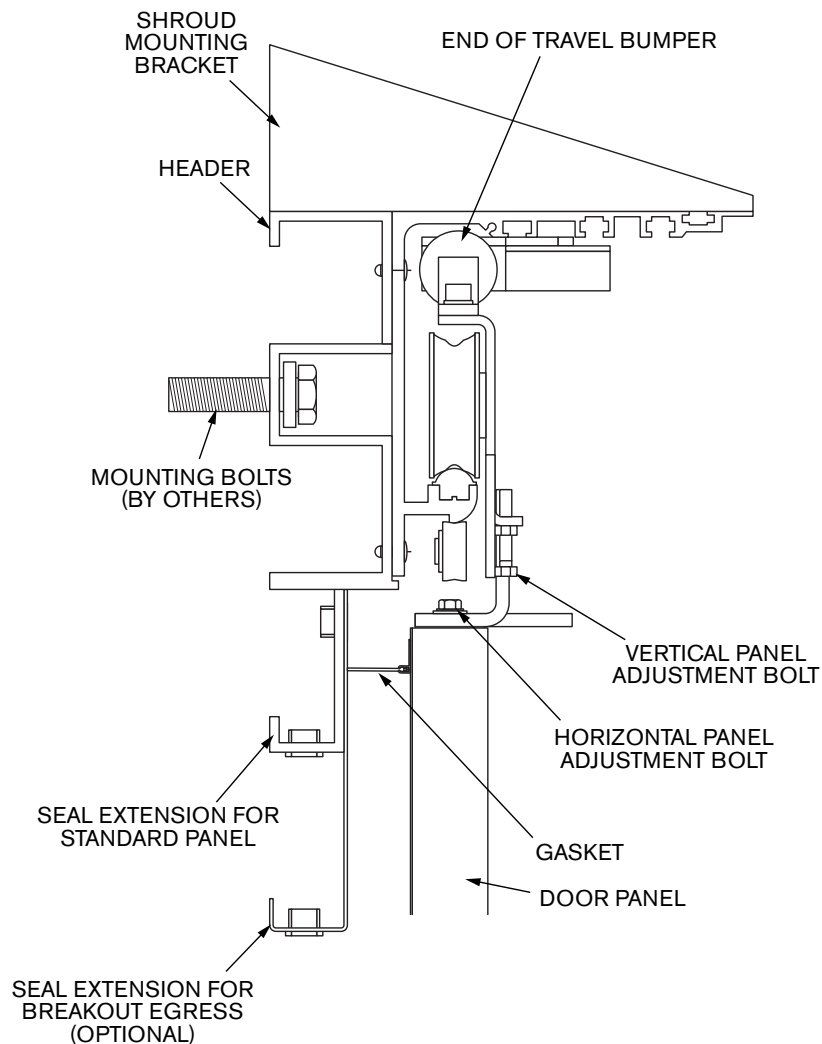

Figure 9: Attaching Panel to Header
5. Mount the header to the wall. Use the holes provided in the header to mount it to the wall (Page 12, Figure 9.)
- 1 Loosen the two horizontal panel adjusting bolts on top of each panel(s). These bolts will slide between the two forks on the panel trolley bracket in the header (Figures 9 & 10B).